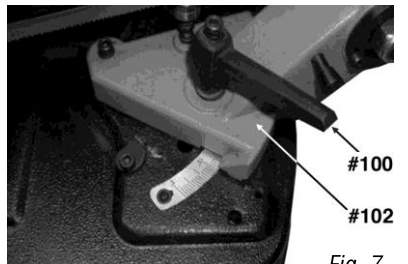

Fig. 7
4. To adjust the sliding blade guide (#94), loosen the lock handle (#72), adjust the blade guide and then tighten. (Fig. 7)